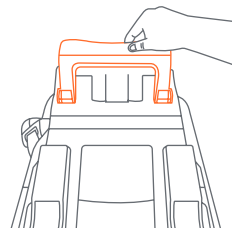

Fig. 54-1
- 4- Gently Move elevation foot, back and forth to confirm the elevation foot is in the locked position (Fig. 54-1).